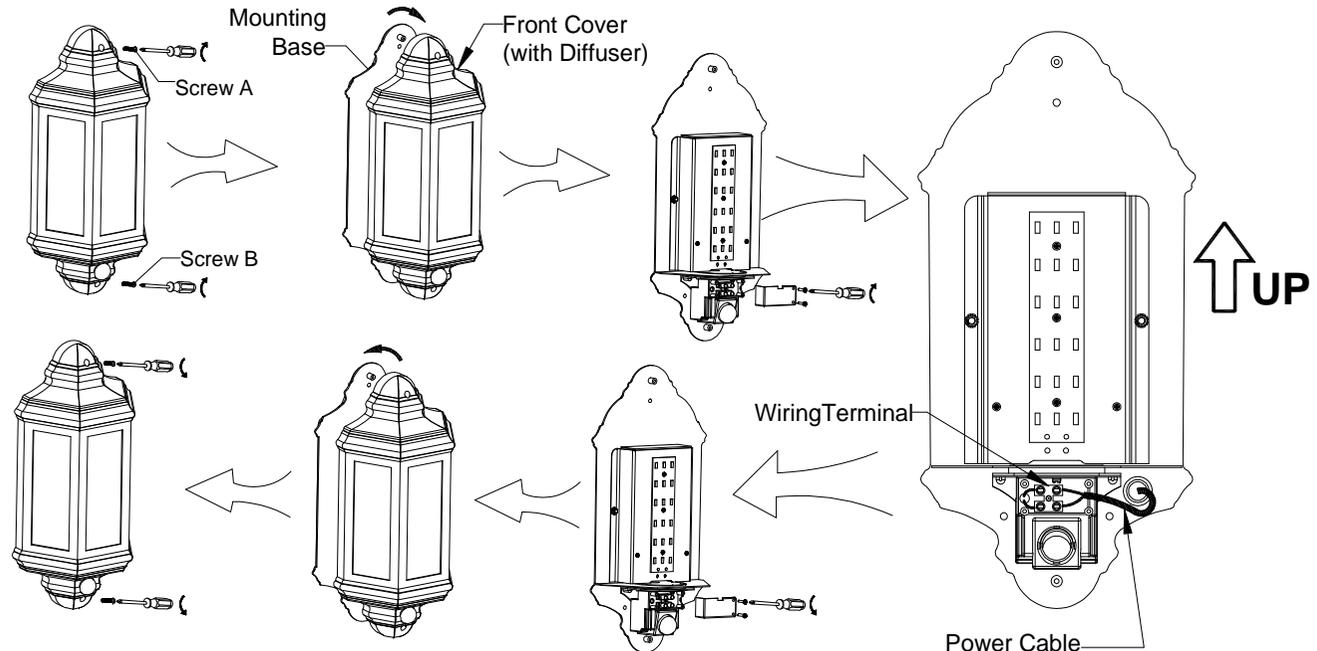

Fig.2(A)
4. Un-screw the **Screw A** and **Screw B** as the Fig.2(A)
the Front Cover from the position of Screw A (showed as Fig.2 (A)).